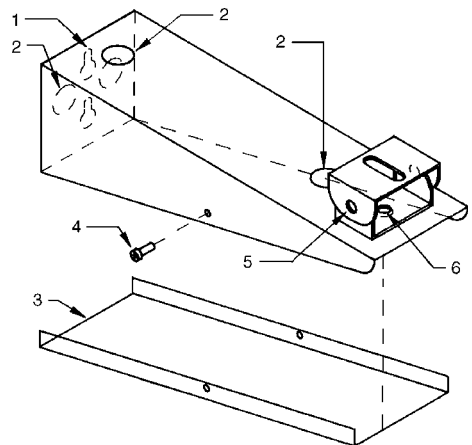

Figure 1. CM1300 Installation
1. Remove the bottom cover of the CM1300 by removing the two screws located on each side of the mount. See item 4, Figure 1.
5. Once the mount is fastened securely to the wall, thread the wires through the top feedthrough holes. See item 2, Figure 1. Replace and secure the bottom cover of the mount.
6. The tilt angle of the camera can be adjusted with a Phillips screwdriver by loosening, and then tightening, the screws on the sides of the tilt table (item 5, Figure 1).
7. The tilt table can be panned by loosening, and then tightening, the screw on the tilt table base (item 6, Figure 1).